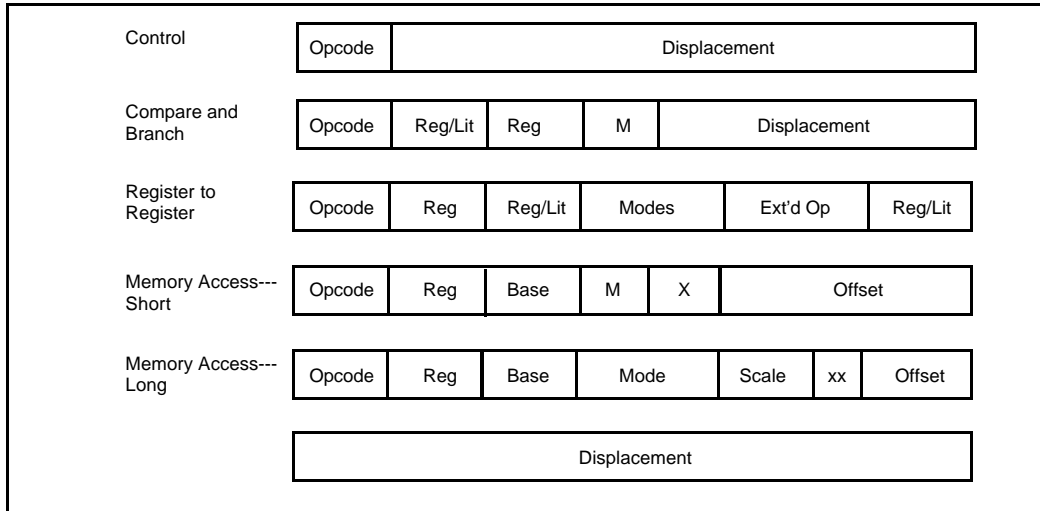

Figure 3. Instruction Formats
| Figure 3 | Instruction Formats | 4 |
4. **Simple Instruction Formats.** All instructions in the 80960SB are 32 bits long and must be aligned on word boundaries. This alignment makes it possible to eliminate the instruction alignment stage in the pipeline. To simplify the instruction decoder, there are only five instruction formats; each instruction uses only one format. (See Figure 3.)